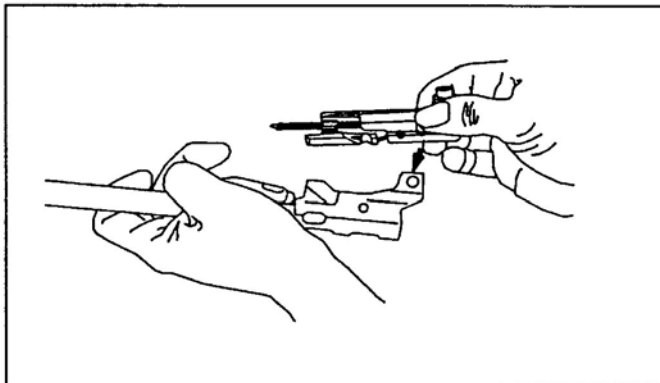

Figure 29. Attachment of the slide assembly to the piston.
- (1) Secure the slide assembly to the piston by pushing the retaining pin from the left to the right. Place the firing pin spring on the firing pin (Figure 29).